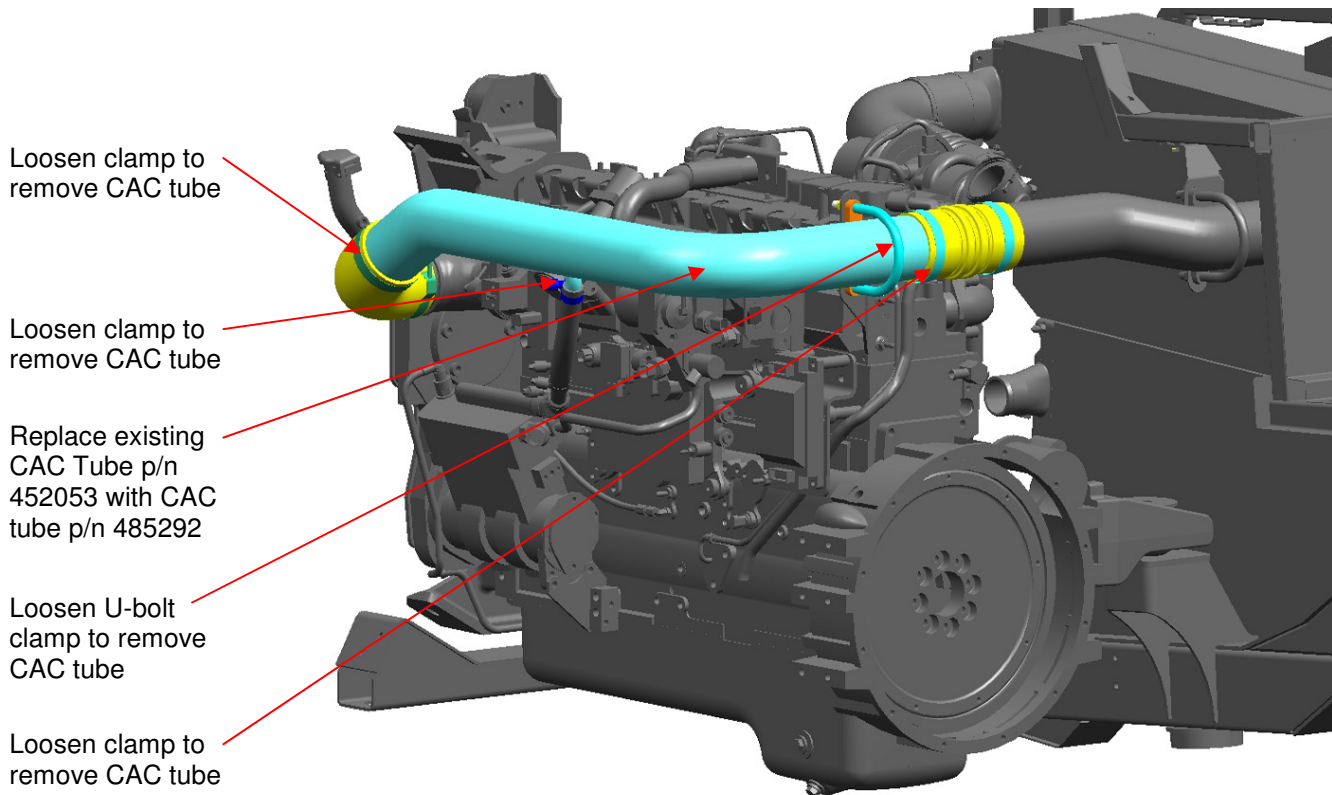

Figure 1: CAC Tube Removal/Installation
4. Locate the existing CAC tube p/n 425053. See Figure 1.
5. Loosen the U-bolt clamp supporting the tube enough to allow for easy removal of tube. See Figure 1.
6. Loosen the two existing T-bolt clamps holding the tube to the 4" elbow and hump hose and the breeze clamp securing the hose from the air compressor to the tube. See Figure 1.
7. Remove the existing CAC tube and replace with new CAC tube p/n 485292. See Figure 1.